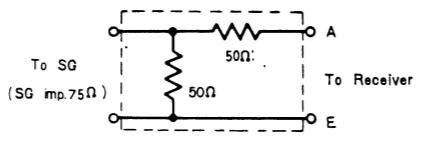

Fig. 13 FM Dummy Antenna
| (12) | Connect to point TP₁ through FM dummy antenna. Common to earth. (Refer to fig. 13). | 87.2 MHz | Tuning gang fully closed. | Output meter across voice coil. | L ₈ (FM OSC Coil) (* 2) Adjust for maximum output. |